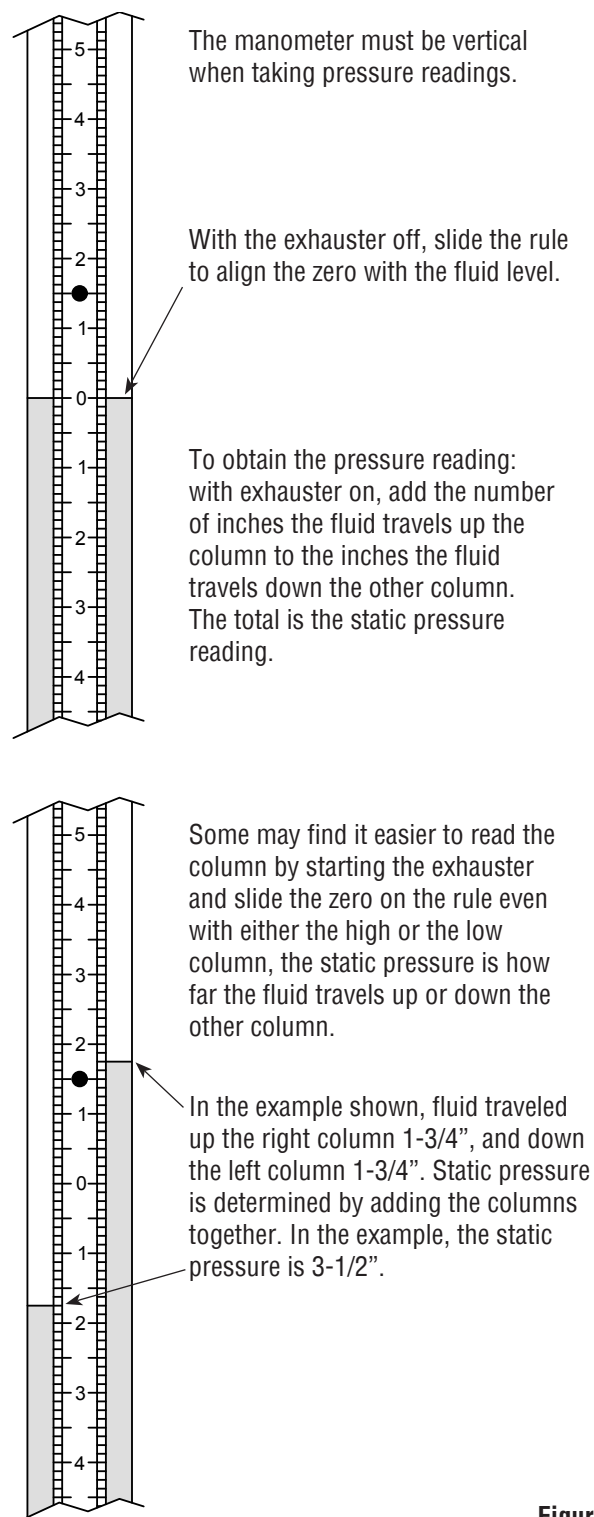

Figure 3
5.3.5 | Adjust the slide rule to align the zero with the fluid level. Refer to **Figure 3**.
5.3.8.2 | To find the static pressure, add the number of inches the fluid travels up one column to the inches the fluid travels down the other column. Refer to the example in **Figure 3**.